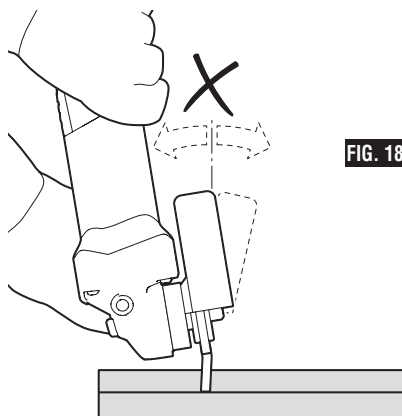

FIG. 18
4. Do not exert side pressure onto the cutting disc. Do not tilt or oscillate the tool as wheel may burst, (Fig. 18).